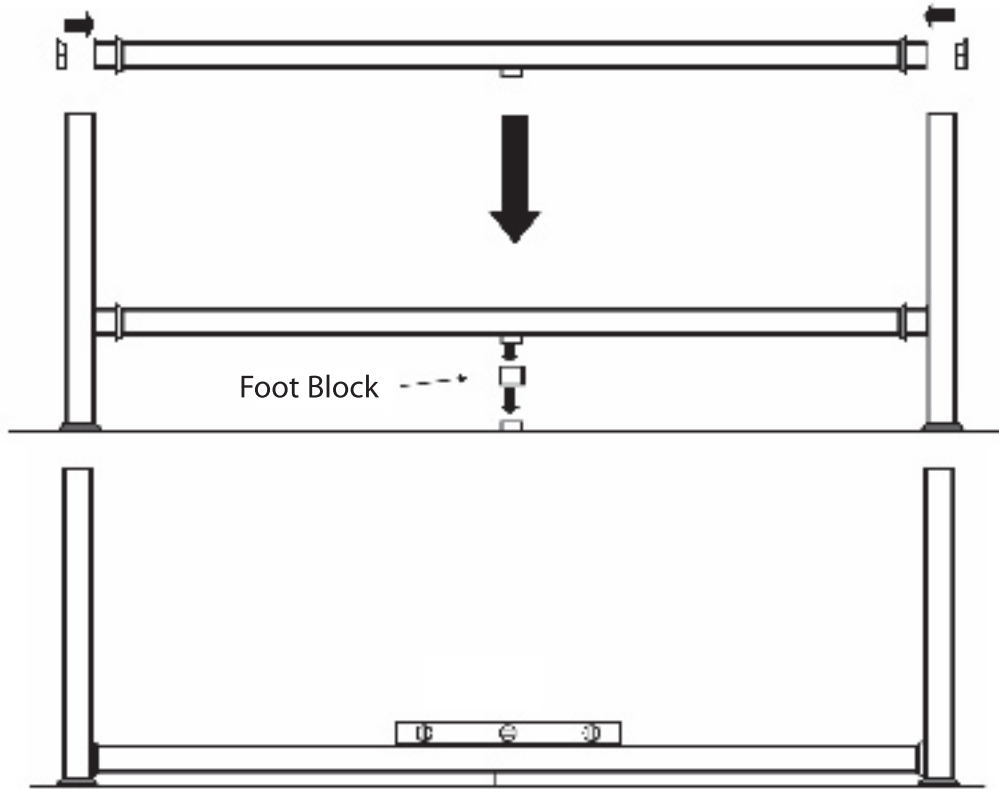
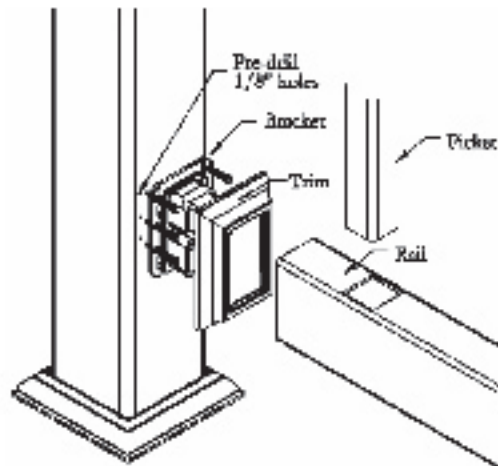

Figure 9. Bottom Rail in Position
Figure 10. Installation of Bottom Bracket
- 5.) Install Bottom Brackets: Slide trim pieces onto the bottom rail facing the finished trim towards the center of the rail. After making certain that the aluminum insert is positioned with the shorter legs facing the hole, insert the 2" x 3½" brackets at both ends the bottom rail. Lower bottom rail (the rail with your drain holes) into position between posts and set onto the foot block (Figure 9). Make sure the holes for the pickets are facing up. Ensure the rail is level and the bracket is centered on the post. Attach bracket to the post using 6 screws provided for each bracket (Figure 10). Drive one of the smaller screws provided through the top of the rail ⅜" of an inch from the post down into the bracket. This will provide the mechanical attachment of the rail to the bracket.